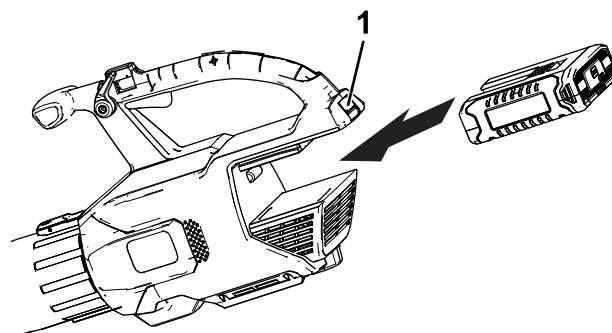

Figure 3
2. Aligned the notch of the battery on the tongue in the body of the handle, grasp the handle and push the battery inside until the lock engages in position (Figure 3).